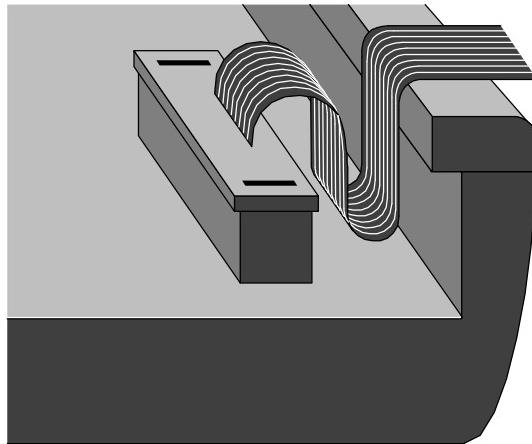

Figure 25 - Proper Keyboard Flex Cable Position
5. Fold the Keyboard in place and tuck the Keyboard Flex Cables into the frame of the OmniBook. See Figure 25.